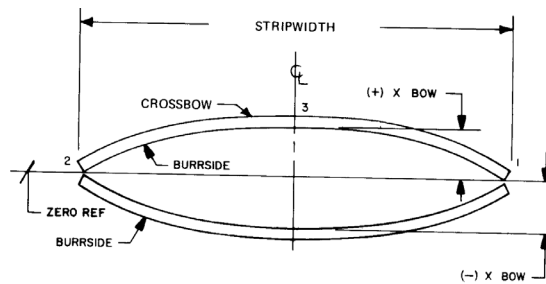

Figure 3
3.5 *crossbow* — transverse bowing of the leadframe (see Figure 3.)